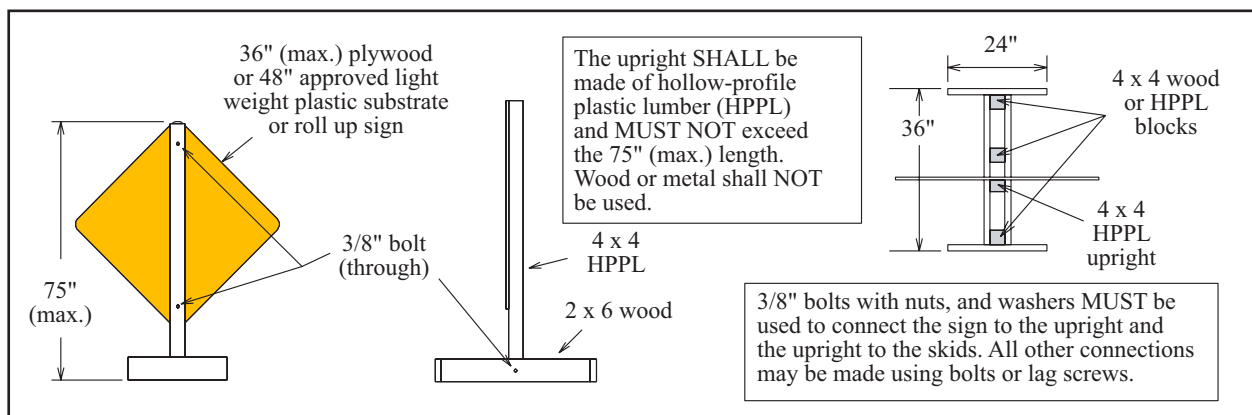

Figure J-7. Wood & HPPL short-term/short-duration H-leg sign support (1 foot mounting height)
- ❖ H-leg sign support (Figure J-7). This is the only short-term/short-duration sign support for which plywood may be used as a sign substrate. The plywood shall be 36 inches square by 1/2-inch thick.